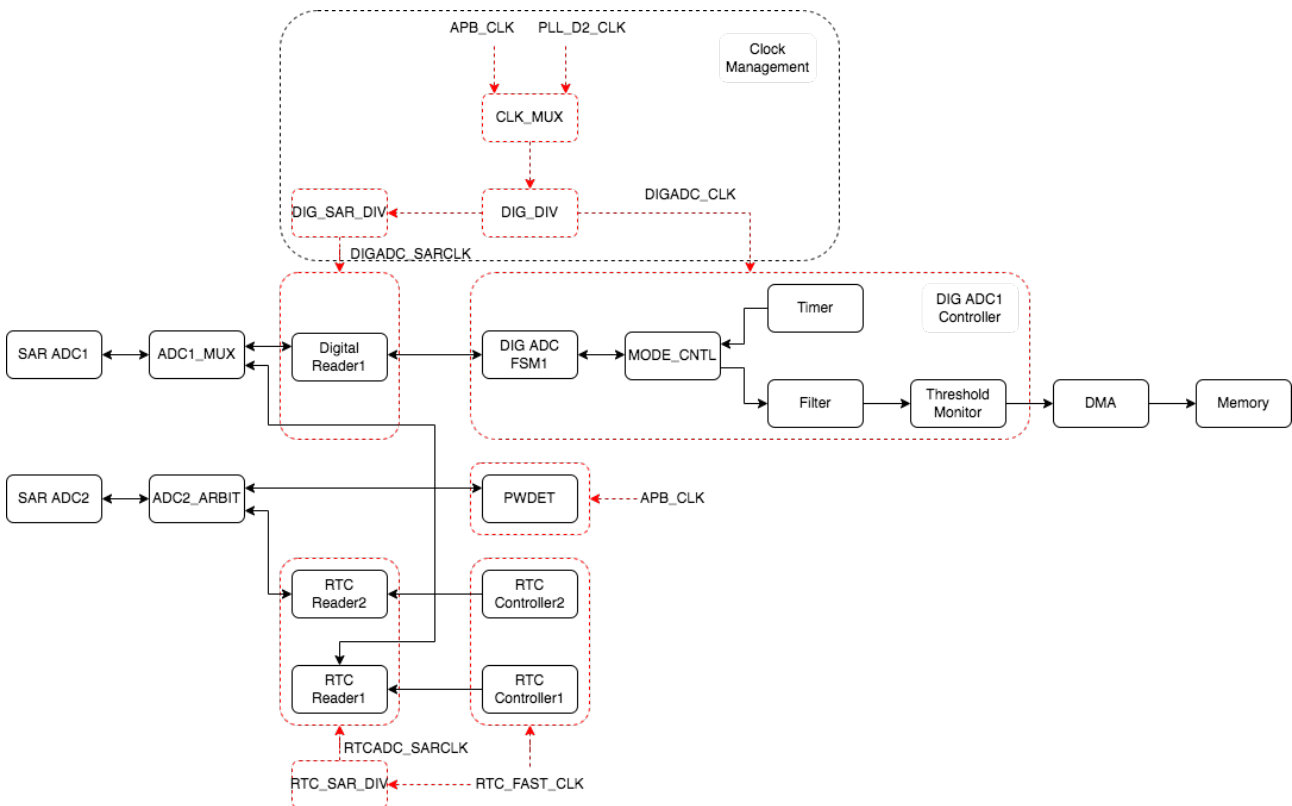

Figure 39-8. SAR ADC Architecture
- Each SAR ADC controller has its own ADC Reader module. See Figure 39-8.
The major components of SAR ADCs and their interconnections are shown in Figure 39-8.
As shown in Figure 39-8, the SAR ADC module consists of the following components: